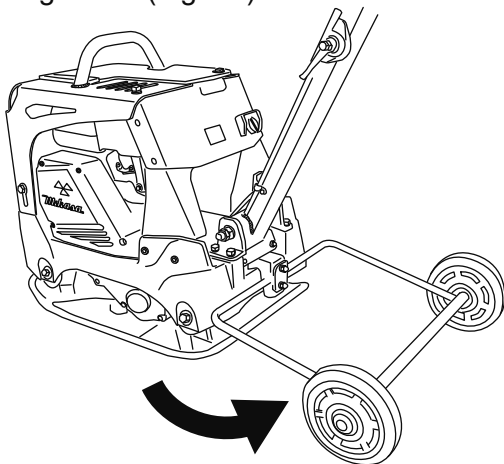

Fig.33
- 2 Pull the cart from the underside of vibrating plate to the rear, then position the machine to the ground. (Fig. 33)